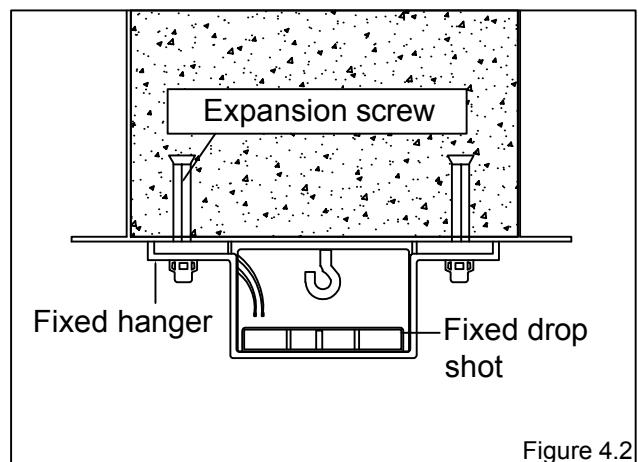

Figure 4.2
- For Concrete Ceiling: Drilling a pilot hole in the base material with a hammer drill and a correctly sized carbide drill bit for the anchor and clean out the hole of all debris. Knock the expansion screw into the hole and then tighten it with a wrench. (Figure 4.2)